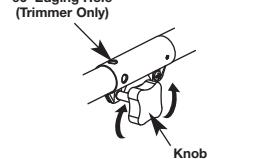

Fig. 4
- Turn the knob counterclockwise to loosen (Fig. 4).
- Turn knob counterclockwise to loosen (Fig. 4).
- Turn the knob clockwise to tighten (Fig. 4).